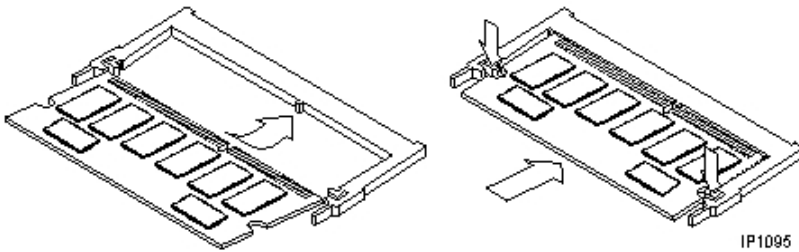

Figure 88: Memory Module Installation
- holding the module at approximately a 30-degree angle to the board, insert the bottom edge of the module into the slot's connector (see Figure 88).